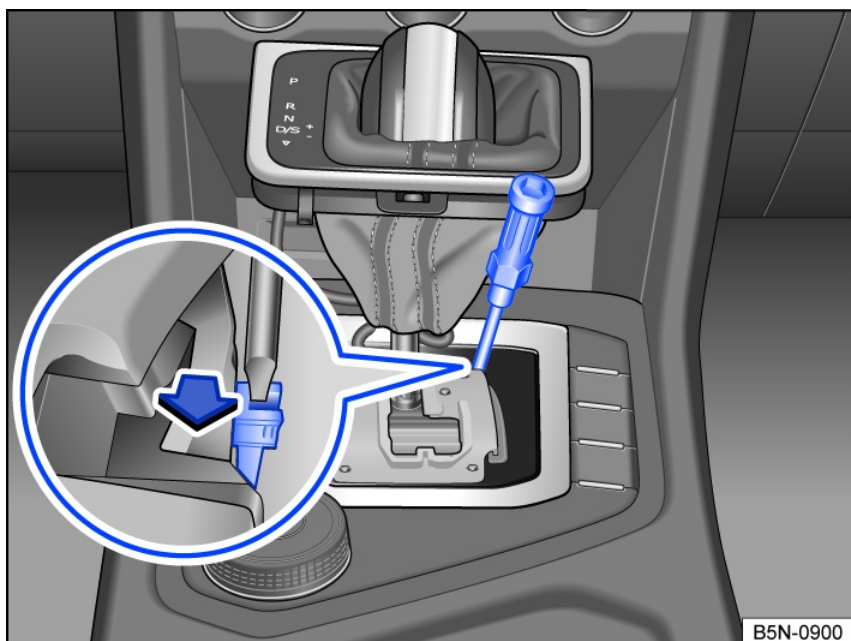

Fig. 118 Manually release the selector lever lock.
- Push the release lever in the direction of the arrow *fig. 118* and hold it in this position.